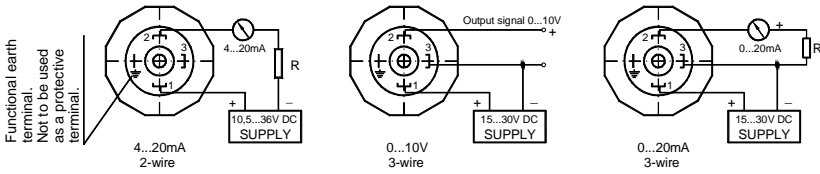

Fig.1a. Wiring diagram for PCE-28, PRE-28 transmitters and PCE-28P probe
The methods of earthing the transmitters are shown in figures 1a, 2.
12.5.1. The **PCE-28P** probe should be connected as shown in figure 1a.
To be connected as shown in figure 1a.